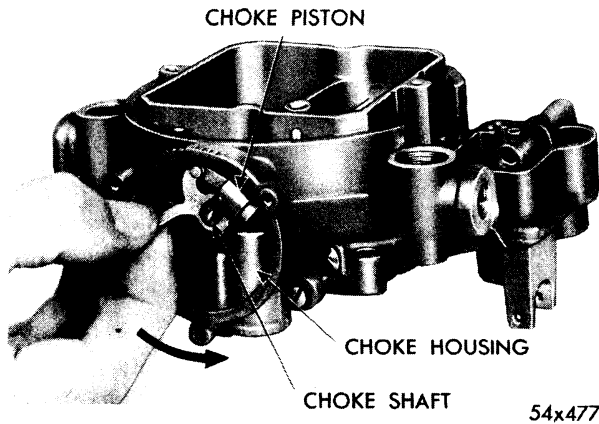

Fig. 19—Removing or Installing Choke Piston and Shaft
- (6) Rotate the choke shaft enough to withdraw choke piston out of its cylinder, as shown in Figure 19. As the choke clears cylinder, withdraw shaft and piston out of air horn.